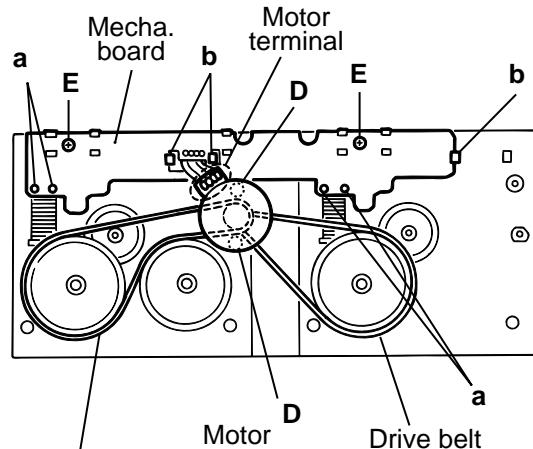
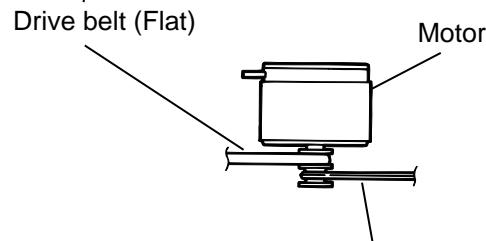

Fig.5
Fig.6
1. Remove the two screws **D** fixing the motor. Be careful to grease's splash when the drive belt comes off.(Fig.5, Fig.6)
2. Unsolder the motor terminal.(Fig.5)